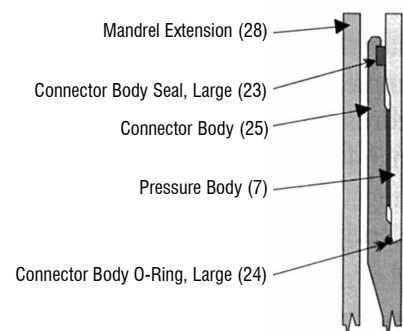

Figure 8-8: Connector Body Large Seal Installation
8. Connector Body (25): Install the Connector Body (24) (large) O-Rings and Large Seal (23) into the OD non stencil groove end of the Connector Body (25), as illustrated in Figure 8-8. The Connector Body (25) will be used later in these procedures.